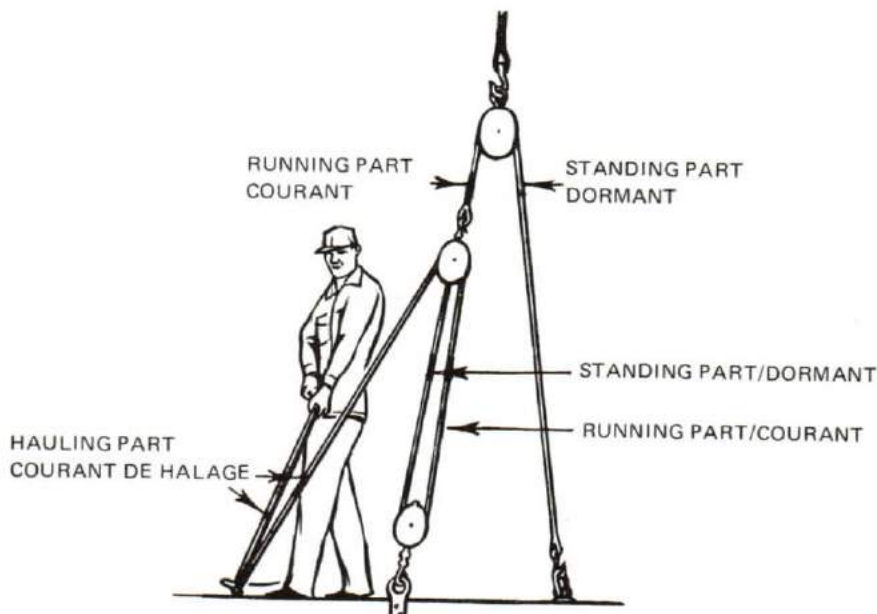

Figure 10-10
d. Hauling part, running part, standing part: A study of Figure 10-10 shows that the hauling part is what you haul on, the running part is that which runs through the block and the standing part is that which is made fast to the deck, block, or other fitting.
d. courant de halage, courant, dormant: l'étude de la figure 10-10 montre que le courant de halage est la partie sur laquelle on tire, le courant est celle qui roule sur la poulie et le dormant est celle qui reste fixée au pont, à la poulie ou à un autre grément.